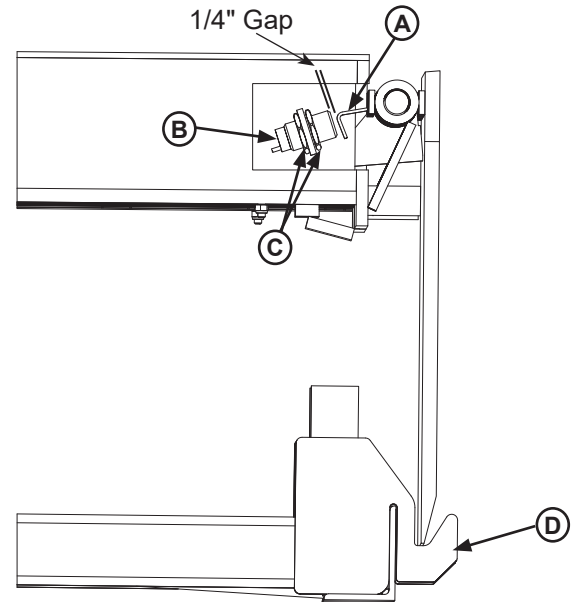

Figure 33
**Stored** - Lip plate is resting in the lip keepers (**D**). In the stored position, target (**A**) is directly in front of the sensor (**B**). See **Figure 33**.
2. When the sensor and target are positioned correctly, the target should be parallel to the face of the sensor with a gap of 1/4", when the lip is in the stored position. See **Figure 33**.